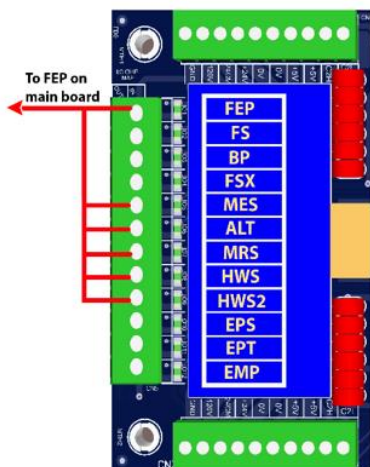

Figure 1: Typical I/O Expansion Board Fire I/O Board
- 1.5 Add temporary connections on the GALX-1102 Main I/O Board and Expansion I/O boards as shown in Figures 1, 2, 3, and 4.